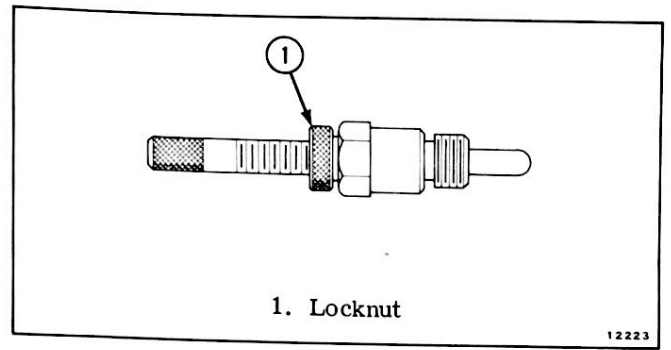

Figure 2-8. Piston Stop #384887
c. Install Piston Stop #384887 in No. 1 cylinder, and bring the stop against the piston. Tighten the locknut. See Figure 2-8.